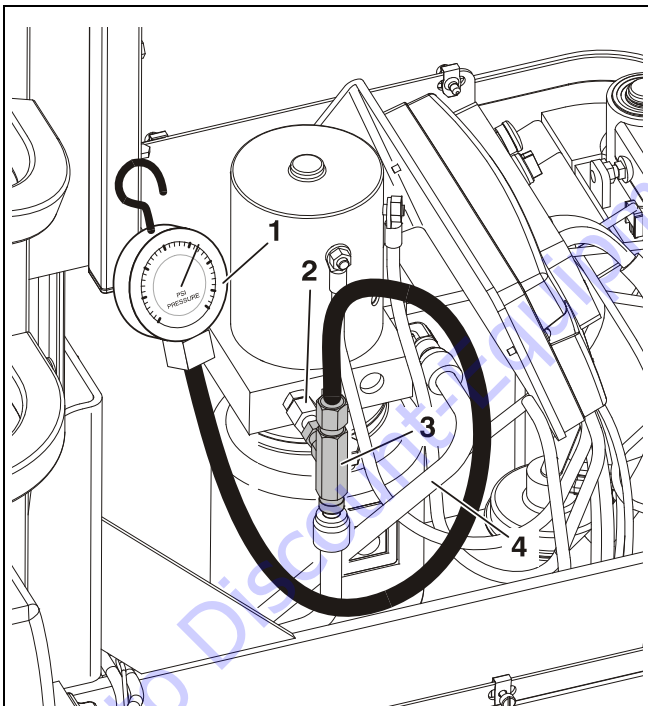

Figure 3-8. Typical Hydraulic Pressure Gauge Installation
1. Remove the hydraulic oil filter and install a t-fitting between the pump and the extend line to connect a hydraulic pressure gauge as shown in Figure 3-8., Typical Hydraulic Pressure Gauge Installation